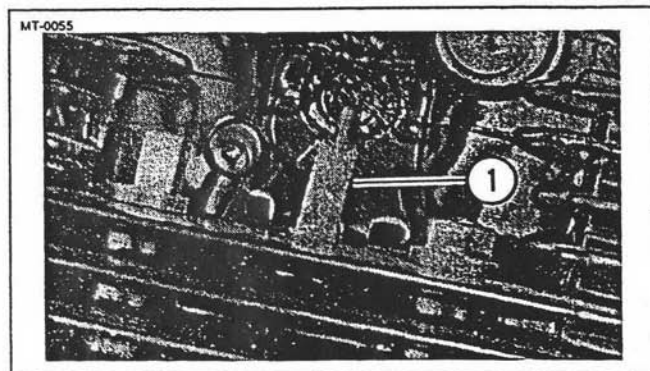

Figure 5-24. Spark Plug
2. See Figure 5-24. Clean debris and dirt away from spark plug (1) and cylinder head to prevent any from falling into the engine.
6. See Figure 5-24. Wipe ceramic insulator (1) of spark plug clean of oil and other substances.